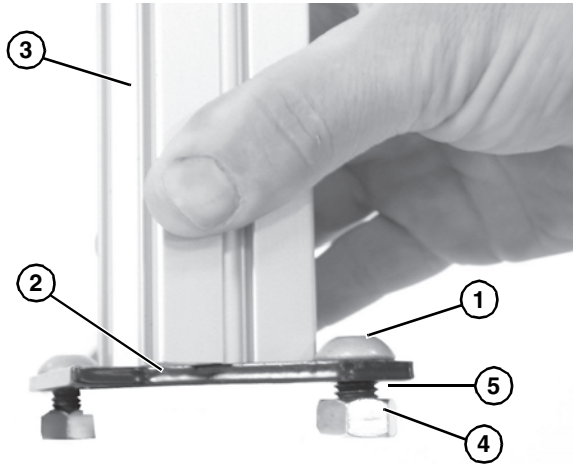

Figure 4
- Place a button screw (Figure 4, item 1) through each hole in the end plate (Figure 4, item 2) of a leg tube (Figure 4, item 3). Attach a hex nut (Figure 4, item 4) to the screw. Leave a gap (Figure 4, item 5) between the nuts and end plate.